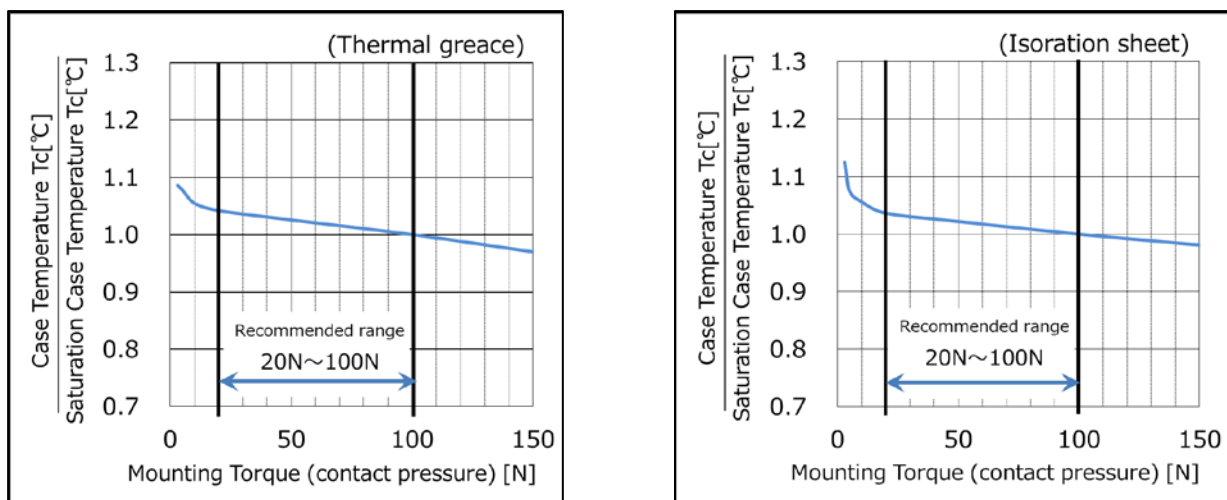

Figure 3. Case Temperature and Mounting Torque Dependency
Make sure to stay within the recommended mounting torque range of 20[N]~100[N]. Note that package strength and reliability can be highly impacted if the mount pressure value exceeds 150[N]. (See Figure 3.)
- Do not bend them sideways as shown in figure 3 (C).